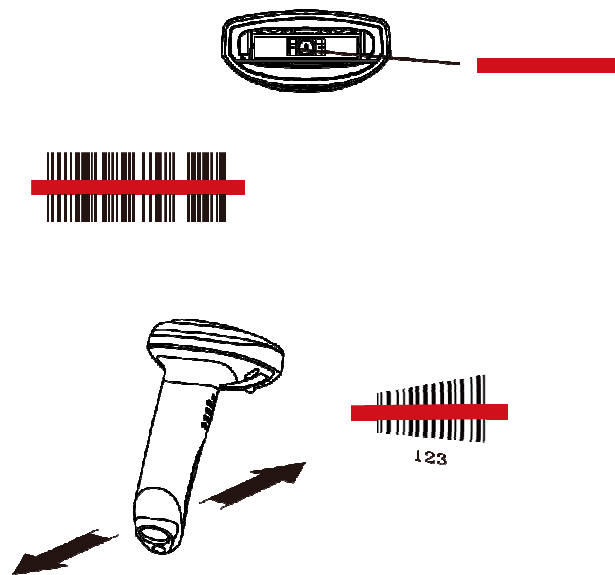

Fig. 1-9
2. Aim the red beam across the center of barcode, as shown in Fig.1-9.